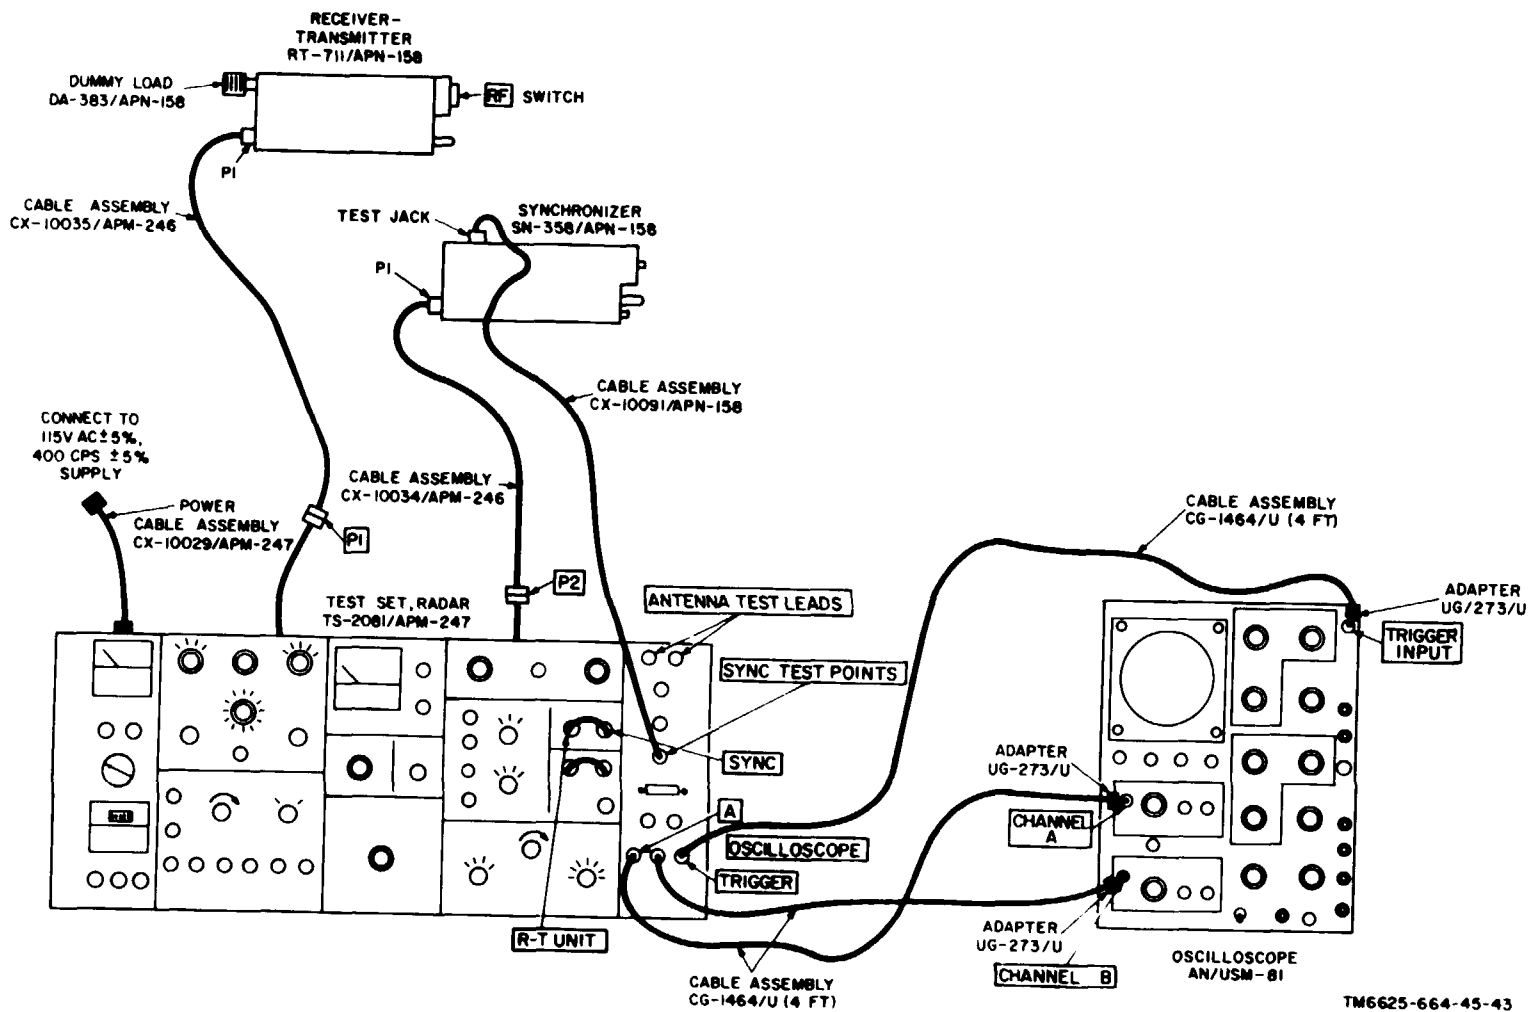

Figure 4-7. Isolation amplifier and servoamplifier test connection diagram.
- b. *Test Connections and Conditions.* Connect the test equipment as shown in figure 4-7.